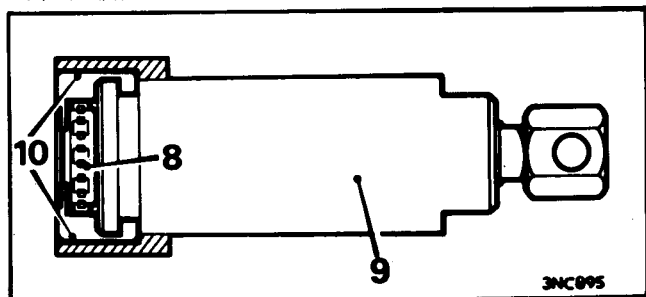

Fig. A.29
3. Remove the primary gear rear thrust washer and backing ring, Fig. A.29.
4. Pull off the primary gear, Fig. A.29.
6. Remove the circlip retaining the first motion shaft roller bearing, using tool 18G 1004, Fig. A.29.
- Use tool 18G 705 and 18G 705C to pull off the first motion shaft roller bearing, Fig. A.29.